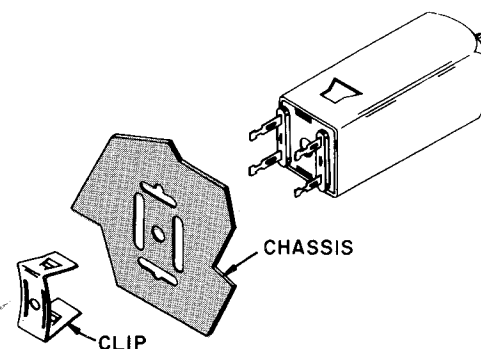

FIGURE 2.
- ☒ T-3, I.F. transformer with five terminals. Mount the transformer so the side with three terminals is positioned as shown. Fasten with a "U" shaped clip as shown in figure 2.